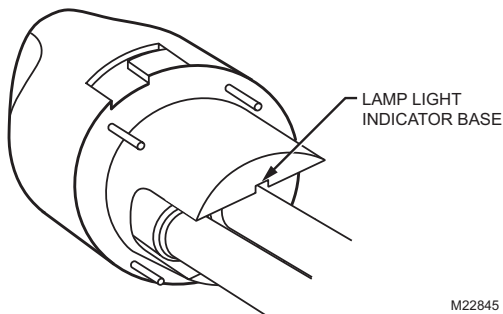

Fig. 13. Wipe lamp light indicator base.
5. Also wipe away any dust that may have collected between the lamp light indicator on the base and the black lamp base. See Fig. 13.